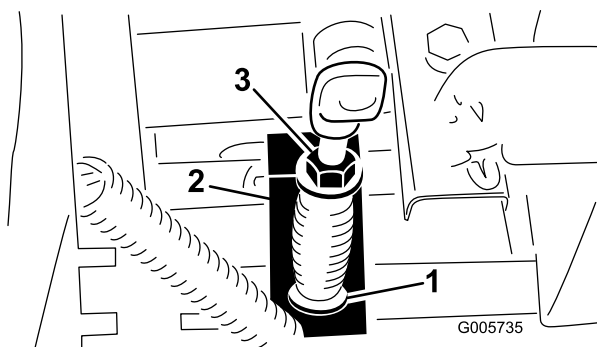

Figure 66
3. Measure length of PTO spring between flat-washers (Figure 66). There should be a spring length of 3-3/16 inches (81 mm).
4. To adjust, hold head of adjusting screw with wrench (under PTO actuating arm) and turn locknut (Figure 66).